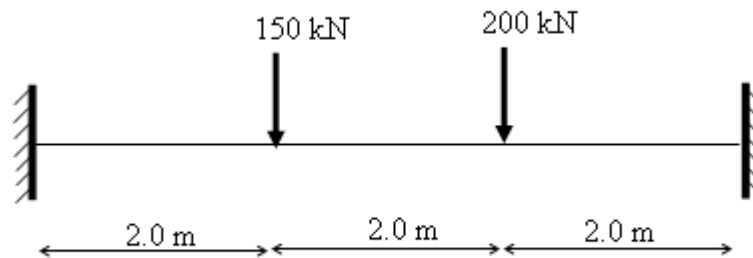

Figure 1:
2. Draw the shear force and bending moment diagrams of a fixed beam loaded as shown in the Figure 1. [15]